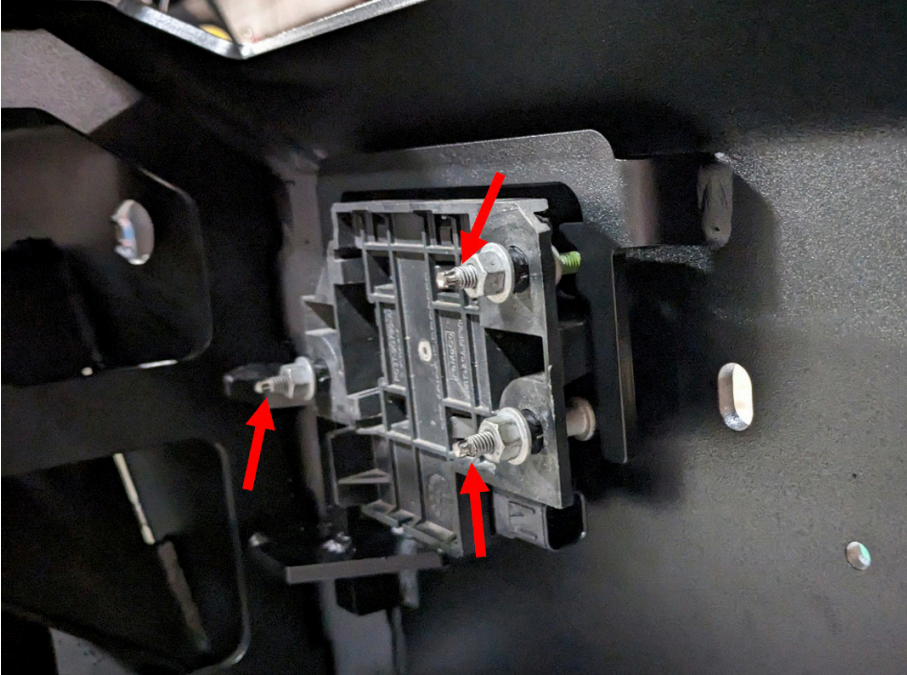

Figure 21
22. Using an E6 socket install the ACC bracket with sensor into the bumper making sure to keep the sensor face parallel with the front face of the bumper. Figure 21